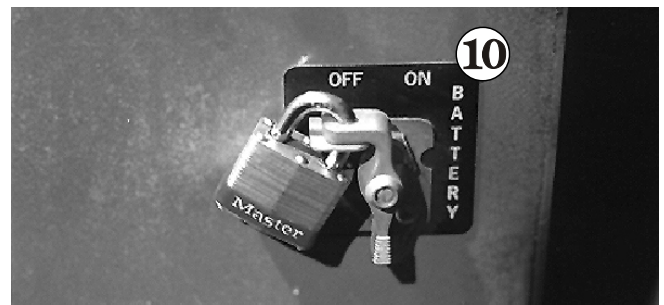

Figure 10.3
2. Turn the **Battery** switch ⑩ OFF and padlock it (see Figure 10.3).